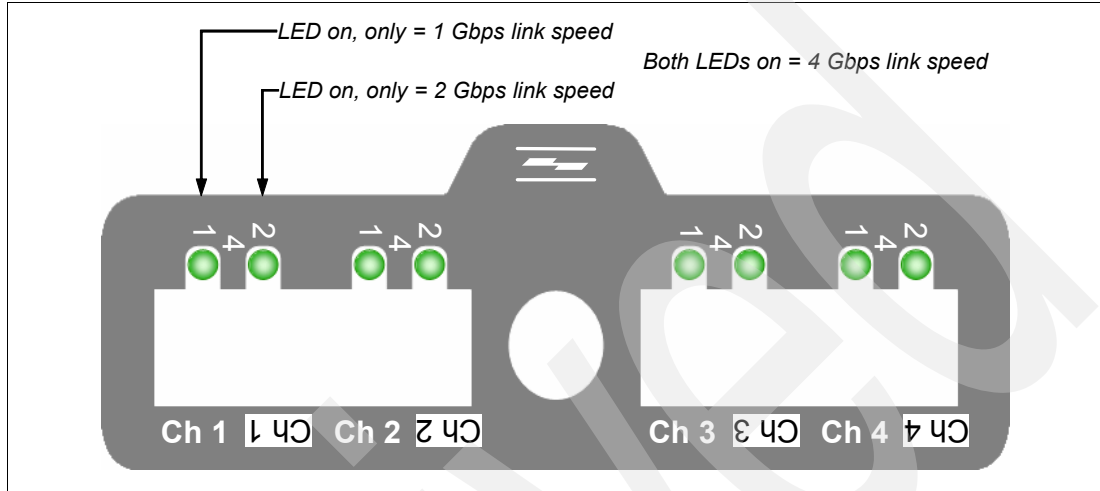

Figure 3-22 4 Gbps HIC faceplate design
- ▶ Figure 3-22 describes the LEDs for a 4 GBps FC HIC.